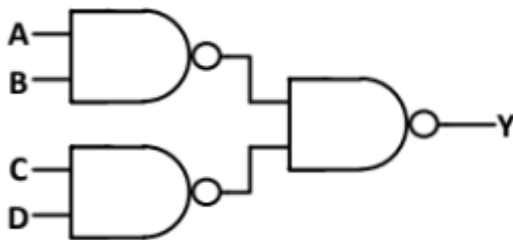

Fig. 3.12
23. Find the logic function implemented by the circuit given below in Fig. 3.12 (GATE EE 2018)